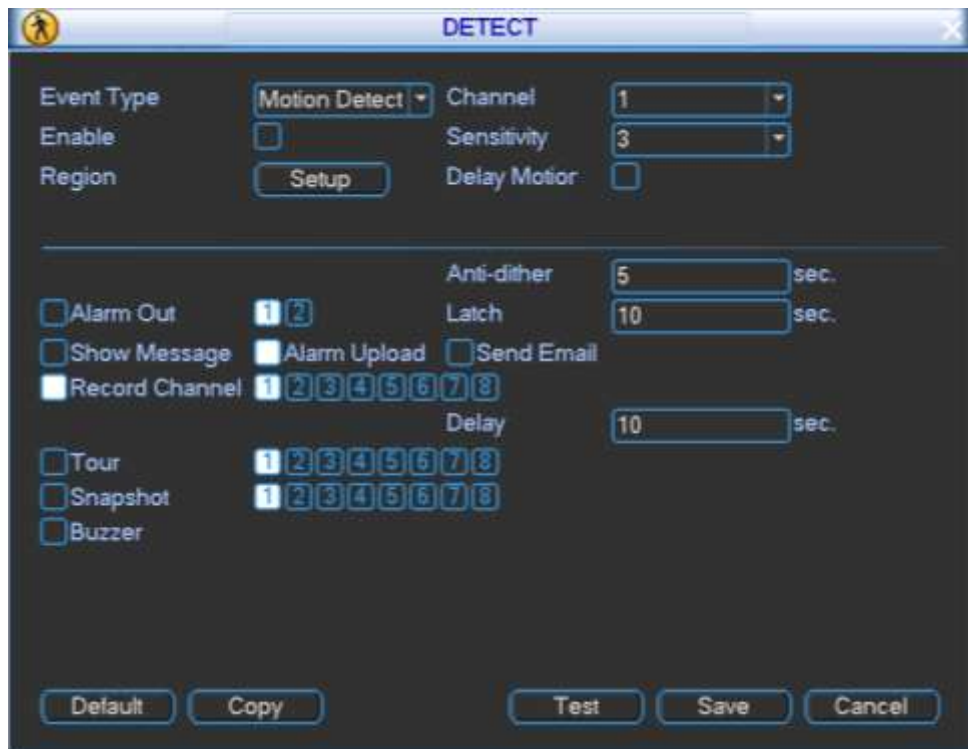

Figure 4-43
In the main menu, from Setting to Detect, you can see an interface shown as in Figure 4-43. There are three detection types: Motion detect/video loss/tampering.
Step 1 From main menu->Setting->Video detection, enter detection interface. See Figure 4-43.